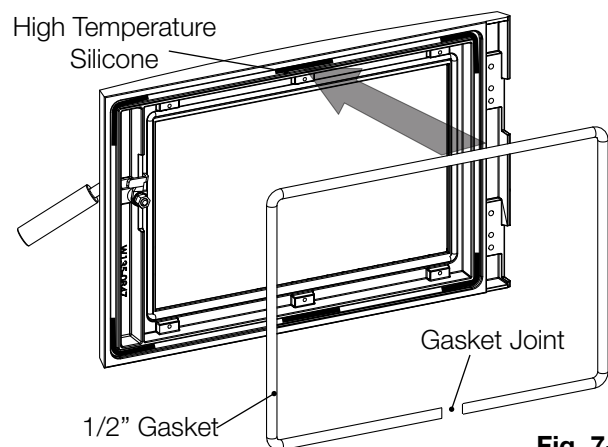

Fig. 7-4
- Apply **high temperature silicone** (not supplied) in the gasket groove as illustrated (**Fig. 7-4**).
- Cut the 1/2” gasket (supplied) to size and place on top of the silicone. Press the gasket down firmly to ensure it stays in place. Ensure the gasket joint is at the bottom as illustrated (**Fig. 7-4**).